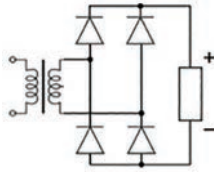

Figure 3.44 No. 9, self-test
9. Determine the peak output voltage and the PIV for the bridge rectifier circuit in Figure 3.44, if the turns ratio of the transformer is 2 (1:2) and the peak input voltage is 120 V. (Four silicon diodes)